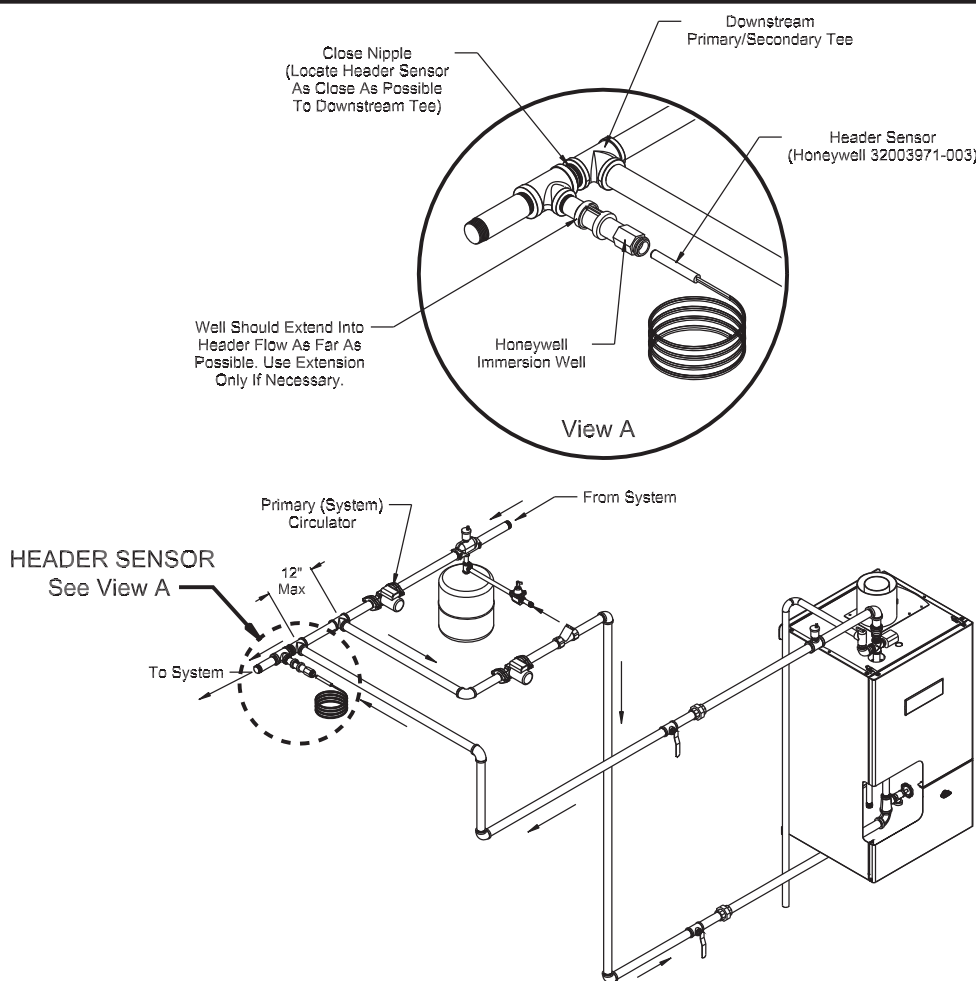

Figure 10.4: Proper Installation of Header Sensor
- c) Header Sensor - When this sensor is installed and enabled, the boiler will attempt to maintain the target water temperature in the header rather than in the supply. Where the system flow rate varies widely, the use of a header sensor allows the temperature of the water being sent to the radiation to be more accurately controlled. Use only the Honeywell 32003971-003 sensor listed above. Locate this sensor immediately downstream of the second primary-secondary Tee (Figure 10.4). Installation of this sensor in a well, as opposed to on the surface of the header, is highly recommended. The sensor wiring should be routed away from sources of electrical noise. Where it is impossible to avoid such noise sources, wire the sensor using a 2 conductor, UL Type CM, AWM Style 2092, 300Volt 60°C shielded cable. Connect one end of the shielding on this cable to ground. See Section XII for information on enabling the header sensor.